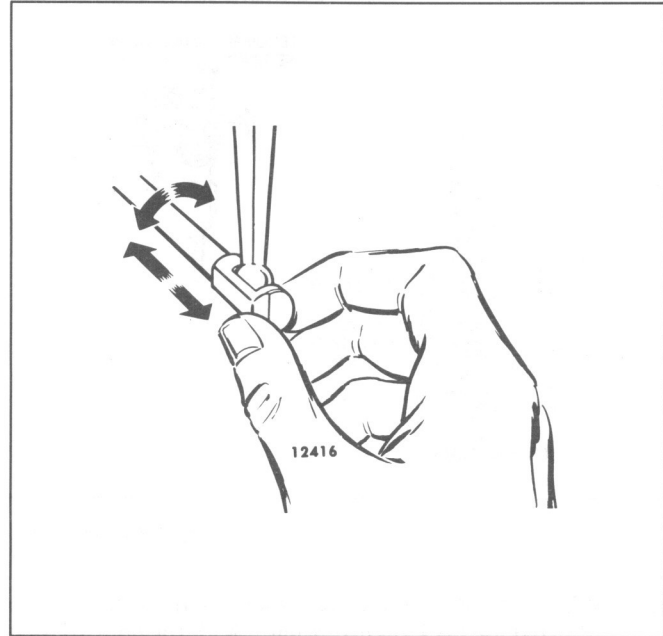

Fig. 13 – Checking Rotating Movement of Injector Control Rack
5. Move the speed control lever to the *maximum speed* position with light finger pressure. Turn down the adjusting screw of the No. 1L injector rack control tube lever until the injector rack clevis is bottomed against the injector body. The injector rack should be easily rotated but not moved in and out (Fig. 13). This will place the No. 1L injector rack in the *full-fuel* position.